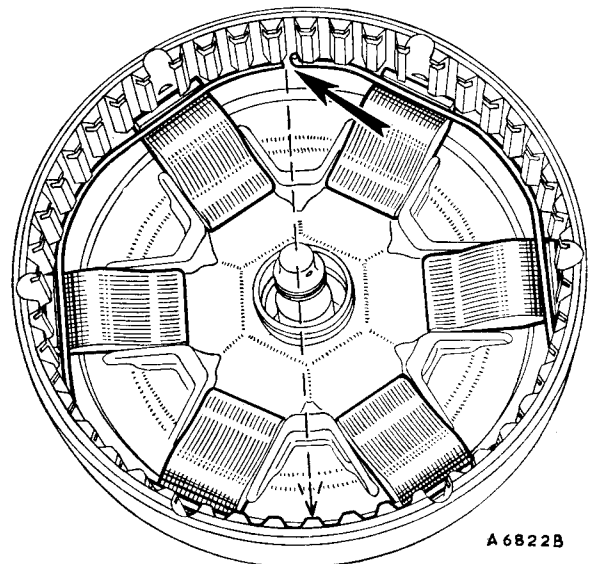
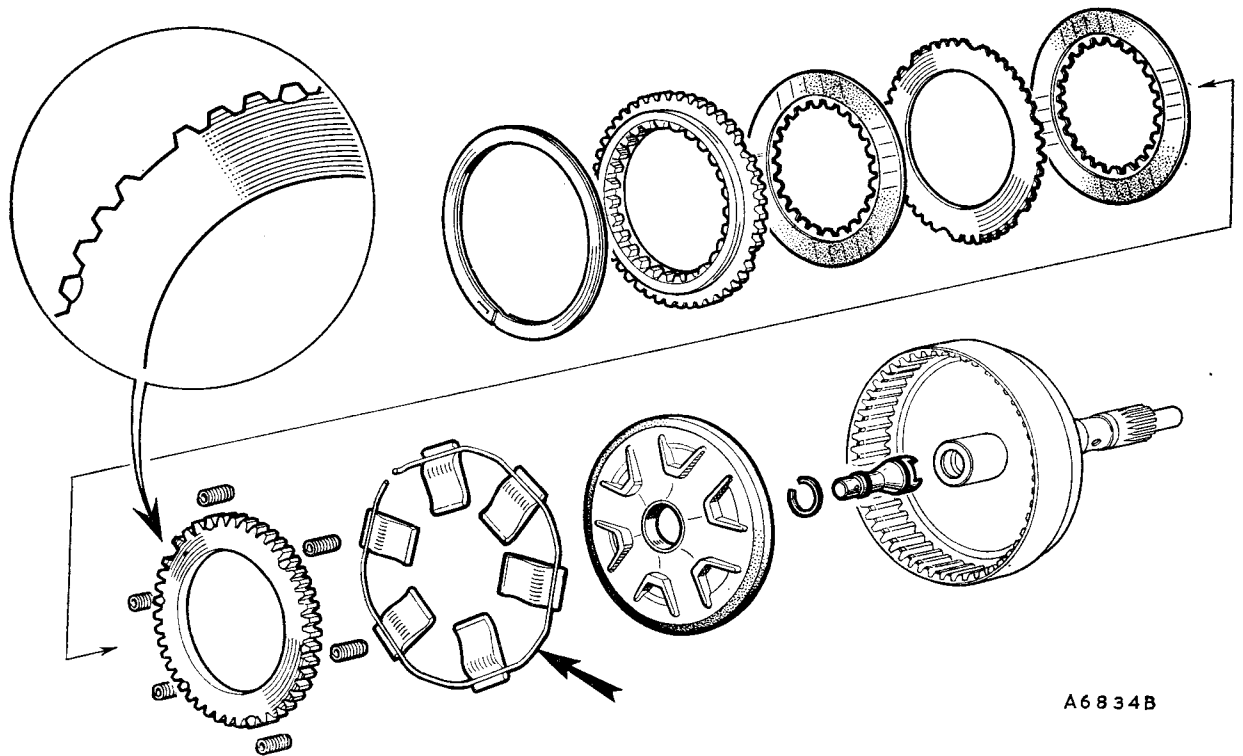
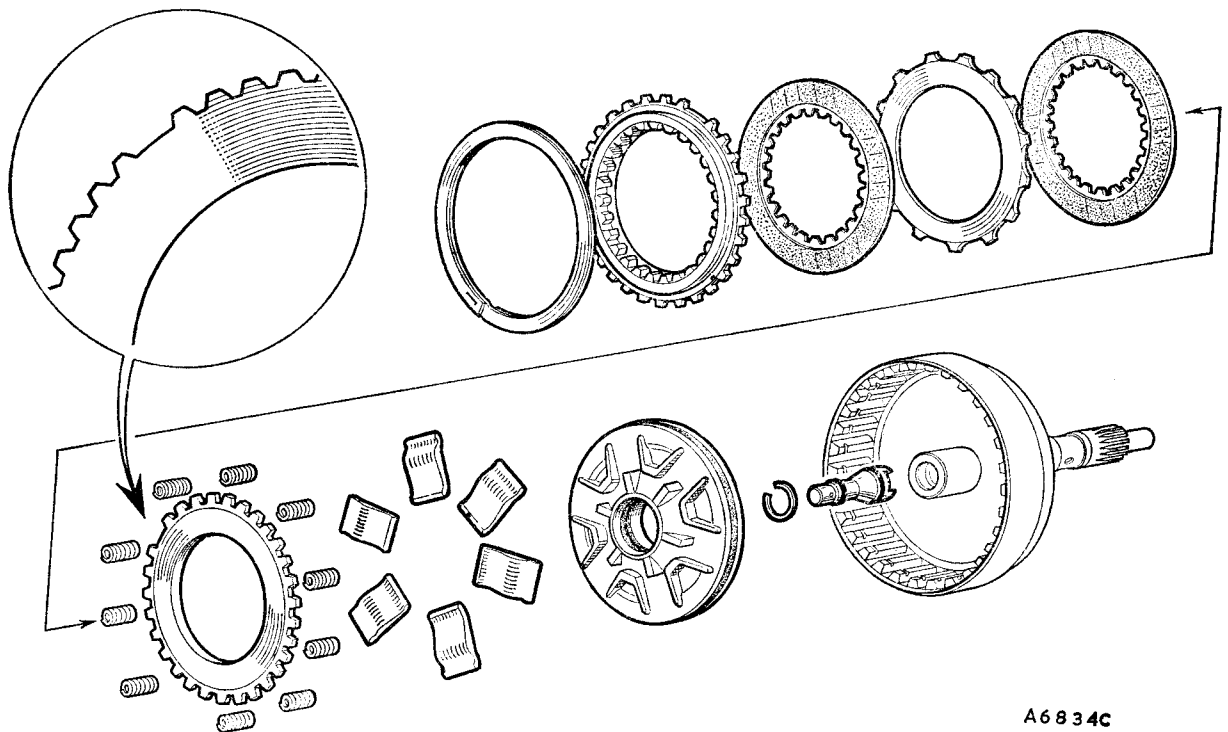
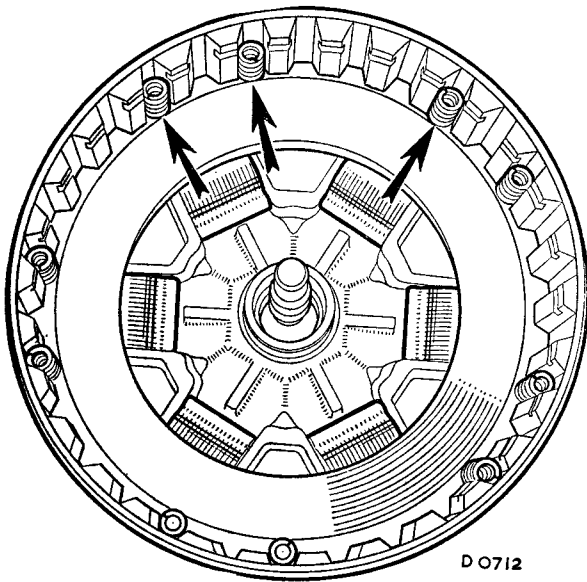

Fig. Fa.33
Fig. Fa.34
Fig. Fa.35
Fig. Fa.36
Two types of clutch assembly are in use; the earlier type having 47 teeth is shown in Fig. Fa.34. This unit is now replaced by the 30-tooth clutch as shown in Fig. Fa.35. The two clutch assemblies are not interchangeable; when a replacement unit is required only the identical unit to that removed must be fitted.
(3) Remove the retainer plate and clutch plates (two paper, one steel).
(4) Lift out the piston return springs and pressure plate.
(5) Remove the spring ring (if fitted) and toggles (see Fig. Fa.34).
(6) Use an air pressure line to blow out the piston.
(7) Remove the circlip and lift out the reverse shut-off valve.
- (9) Using Service tool 18G 1102, assemble the piston with the lips of the seal facing inwards and lubricated with transmission oil.
- (10) *47-tooth clutch.* Assemble the toggles and spring ring (early units) with the ends of the spring ring located as shown in Fig. Fa.33, and with the cut-out tooth on the pressure plate in the relative position to the ends of the spring ring (Fig. Fa.34). Assemble the clutch plates and the piston return springs.
- (11) *30-tooth clutch.* Assemble the toggles, pressure plate, and the piston return springs as shown in Fig. Fa.36. Refit the clutch plates and the retainer plate (see Fig. Fa.35).